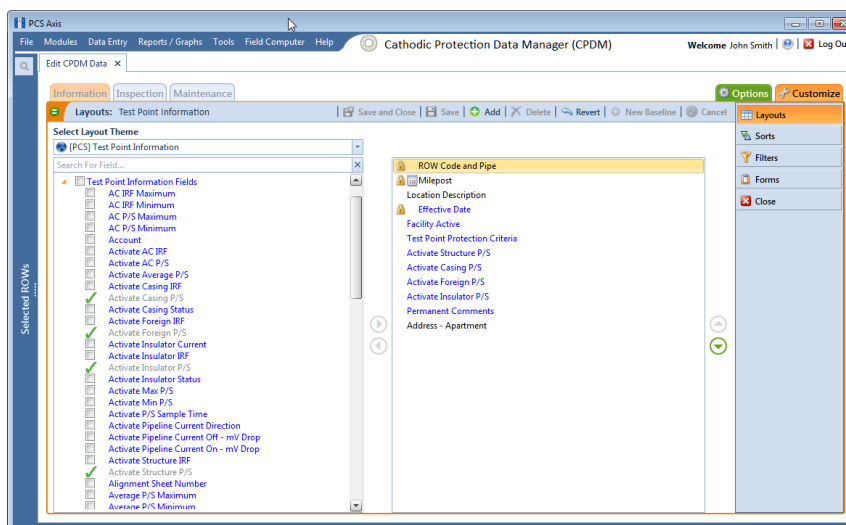

Figure 8-16. Test Point Information Fields
- 6 Double-click **Test Point Information Fields** in the left pane of the window to view a list of fields available for selection (Figure 8-16).